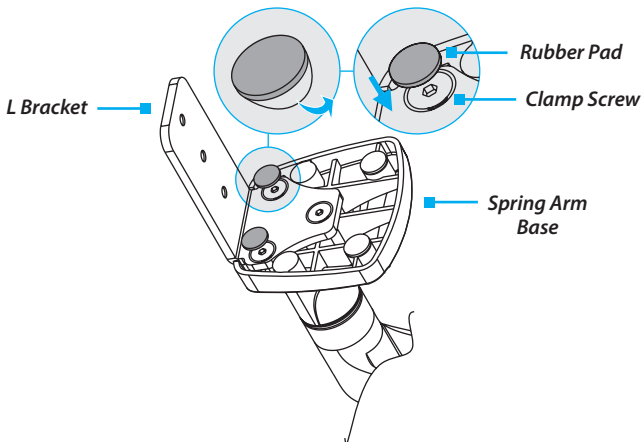

Figure 2
4. Remove the backing from the two **Rubber Pads (7)** and affix the **Rubber Pads** to the tops of two of the **Clamp Screws** on the underside of the **L Bracket** and **Spring Arm**. (Figure 2)